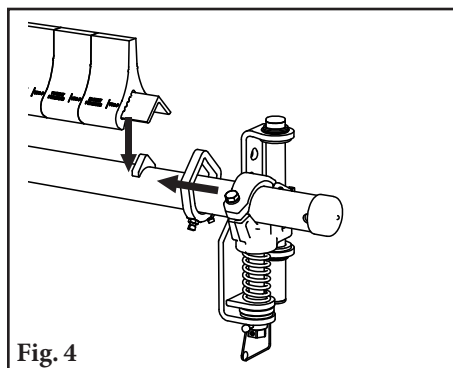

Fig. 4
- Ensure the tensioner travels freely.** Pull up and push down on each pole end to ensure the pole mount travels freely on the guide pole. If there is any sign of binding, loosen the bolts on the mounting base and pivot until the tensioner moves freely (Fig. 4). Retighten bolts.
Set new cushions and angle back on the pole and slide angle clamps back on the angle (Fig. 4). Center blades to belt. Tighten the angle clamp set screws and lock nuts on both sides.
Turn the adjustment nuts until the correct spring compression is reached (Fig 4). Spring compression is determined by the spring length. See the chart below for the correct spring length for your belt width. Replace locking pins.